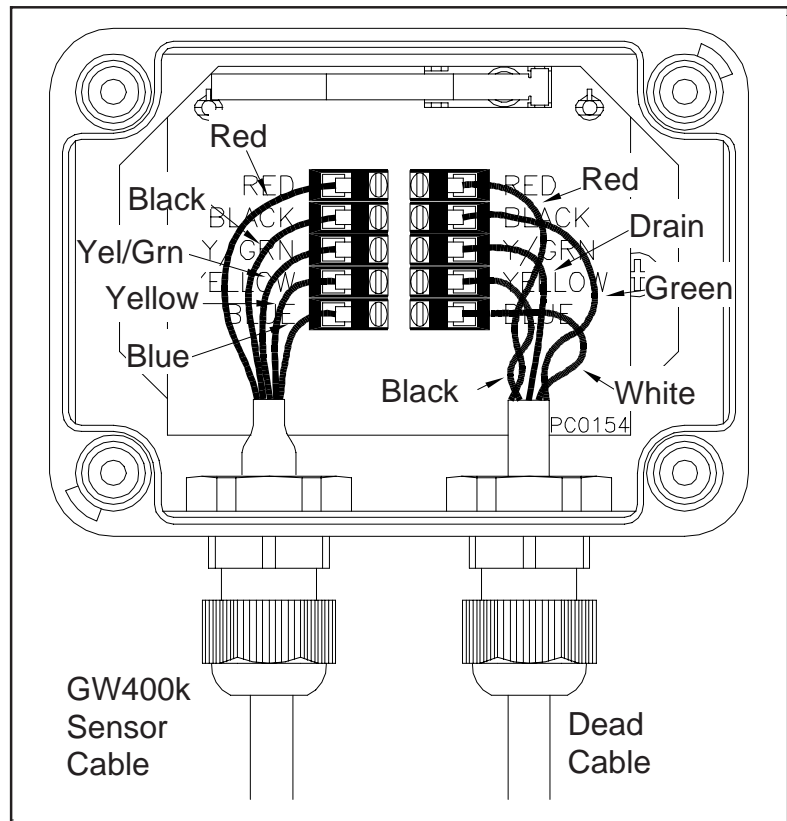

Figure 11
Adhere to this schedule at all times when jointing sensor cable to non-sensitive cable. Failure to comply with this will compromise the security of the system. See Figure 11.
3. Connect the sensor cable tails to the terminal blocks ensuring that the cable tail colours match the screen printing on the PCB. Figure 11 shows sensor cable wired to the left hand terminal block of a junction box.